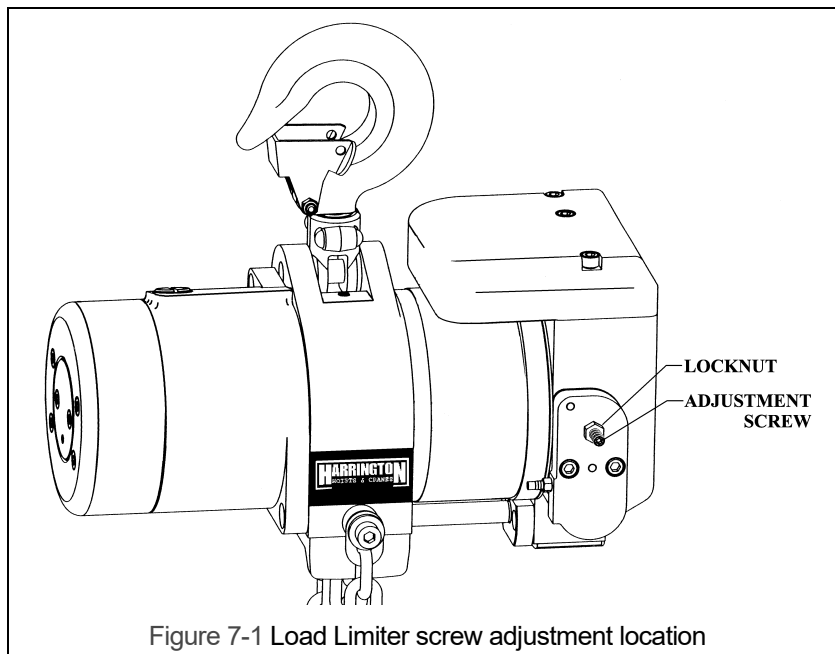

Figure 7-1 Load Limiter screw adjustment location
- d. For the adjustment procedure: OUT means the counter-clockwise (CCW) direction, and IN means the clockwise (CW) direction.
- 2) Refer to Figure 7-1. Loosen the lock nut and slowly turn the adjustment screw OUT until it is loose and no longer is in contact with the internal load limiter spring – as this occurs the screw should become easier to turn. Stop turning the screw once it is loose and easier to turn.